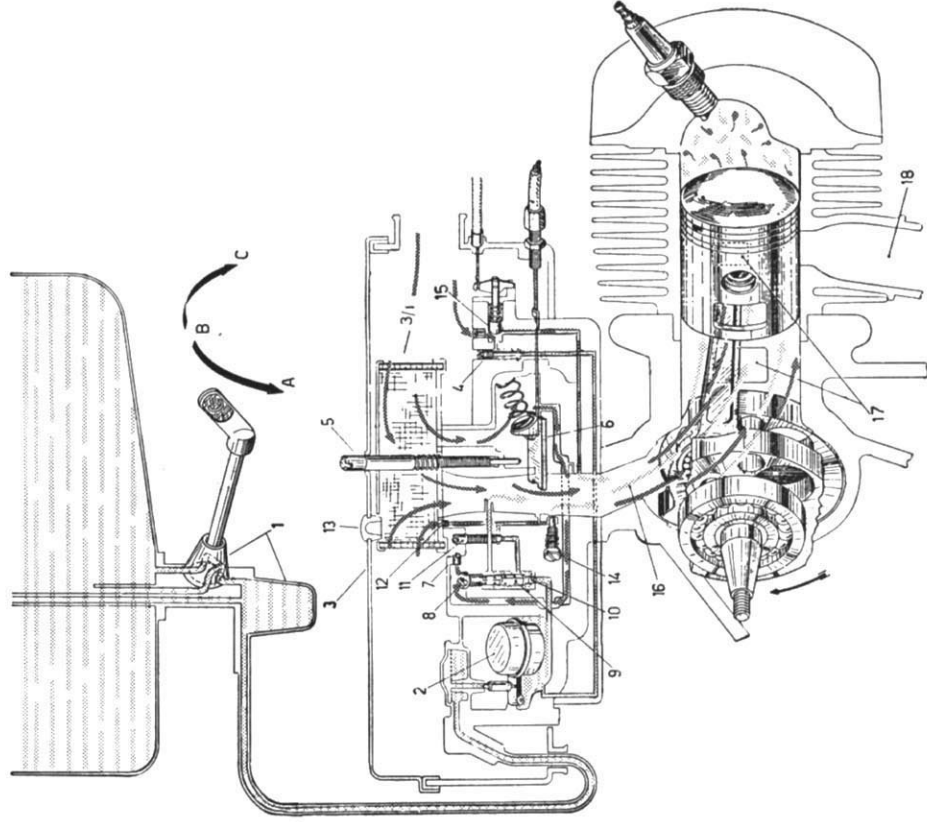

Fig. 9. Fuel supply and distribution diag.
For adjusting the idling turn the slow running adjuster screw (fig. 9, n. 5).
- On the carburettor body a set screw is provided for adjusting the throttle cable play (see fig. 9); this screw is to be reset **only if necessary** or on dismantling and reassembly operations.
- On the rear end of the air cleaner case, is a plugged hole. When this plug is removed the spring loaded mixture adjusting screw is accessible (Fig 9, n. 14).
hole on the air cleaner case (n. 13, fig 9). After said operation depress the kickstarter three or four times.